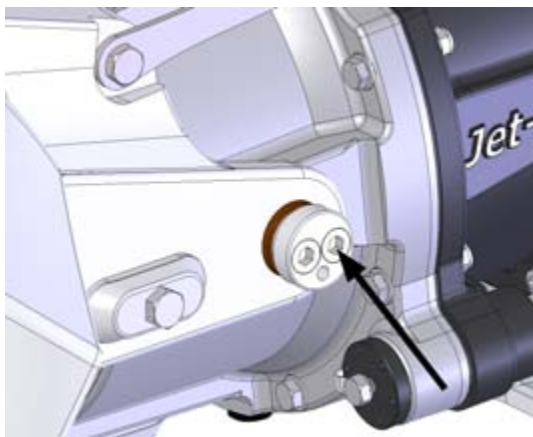

Figure 56. Joint peg screws
2. Open the four joint peg screws (2 pcs, figure 56).